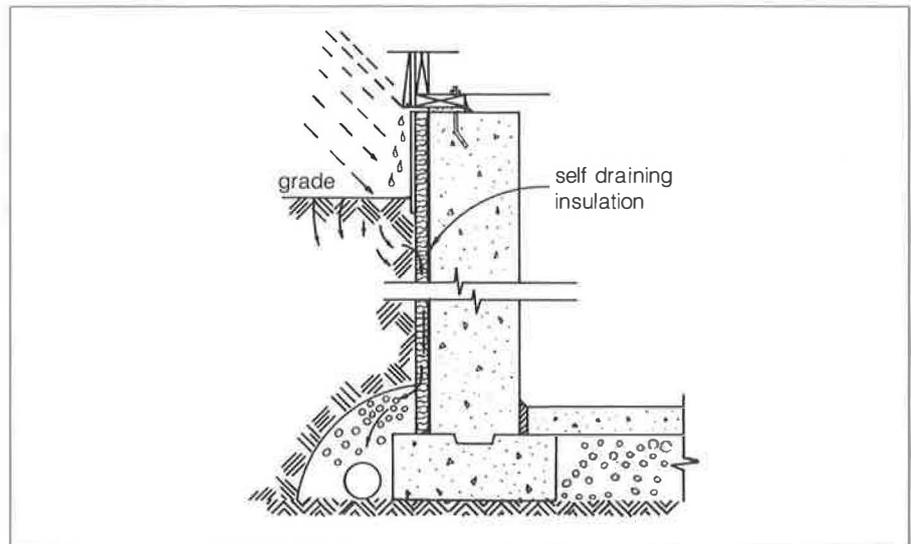

Fig. 2. Basement / foundation-wall drainage detail
- dampproof the foundation walls and insulate on the outside with a draining insulation (*fig. 2*).